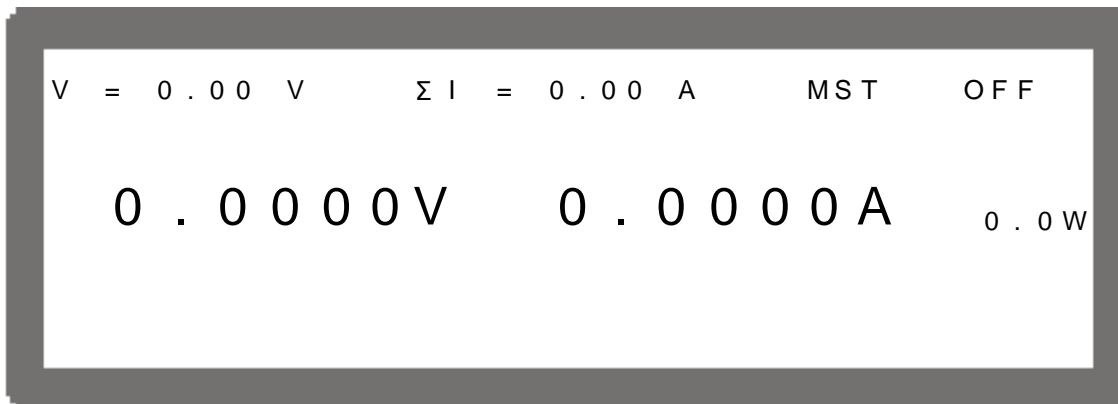

Figure 3-40
3. Press “” to confirm, it will skip to the series/parallel MASTER page automatically as Figure 3-40 shows.